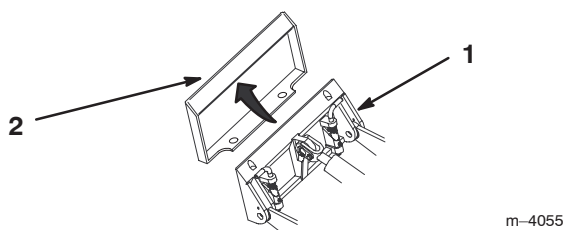

Figure 14
4. Position mount plate into the upper lip of the attachment receiver plate (Fig. 14).